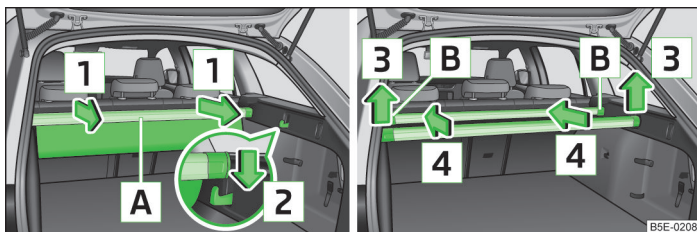

Fig. 94 Multifunction pocket: withdrawing / sliding in
- Grasp the rear bar **A** » Fig. 94 with both hands and withdraw the complete pocket in the direction of the arrow **1**.
- Remove the rear bar from the hook in the direction of the arrow **3** » Fig. 94.